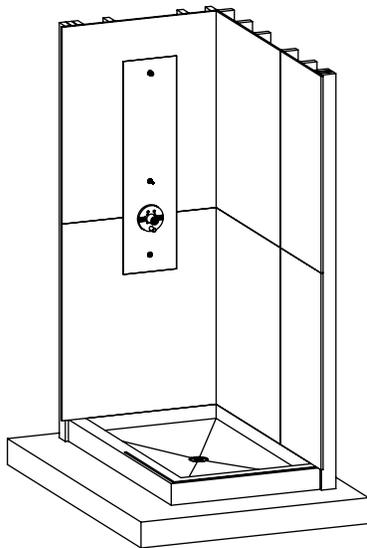

figure 17
3. Repeat steps 1-2 until cement board covers all surfaces. Extend the cement board to at least the outside edge of the pan. If it would make installation easier you can extend the cement board further outside of the pan (fig. 17).
3. Start wall panel 3B. Remember to use the line drawn in (*fig. 17*). Push the side panels up against the shower pan threshold. Any remaining gap between the side and back panels will be filled with grout after the shower has been installed. Finish all bottom panels.